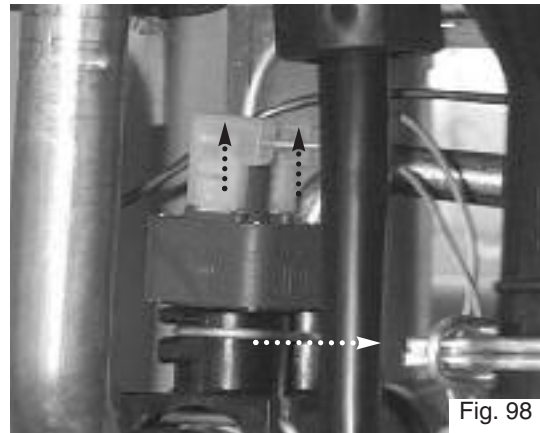

Fig. 98
5. Pull the expansion vessel to remove it (see Fig. 98);
2. Pull off the connections and remove the pressure switch by releasing its securing clip (see *Fig. 98*).